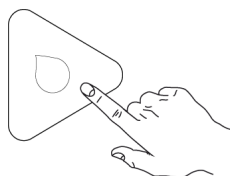

Fig.16
- 5- Press button “B” start washing cycle. (Fig.16)